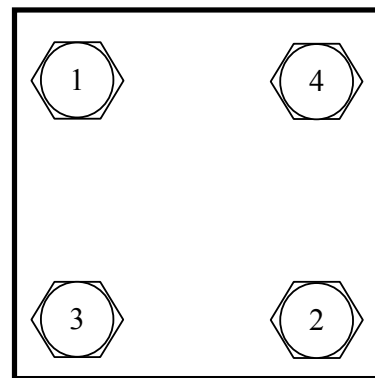

FIGURE 1
1. Remove tie rod nuts (item 18). It may be helpful to grip tie rods (item 19) with vise-grip pliers to prevent tie rods from twisting.
2. Remove head (item 7) and cap (item 20) from cylinder tube (item 11).
3. Remove old tube end seals (item 8). Clean seal grooves thoroughly.
7. Torque tie rod nuts in order shown in Figure 1 and to the torque values shown in torque chart (Table 1). Gripping tie rods with vise-grip pliers may be helpful to avoid twisting of tie rods during tightening.